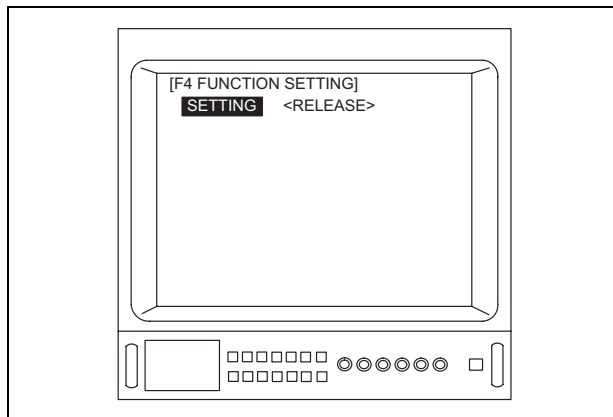

Figure 5.62
2. Depress the menu switch “◀” or the “Enter” key on the keyboard to adjust the “SETTING” (see Figure 5.62).